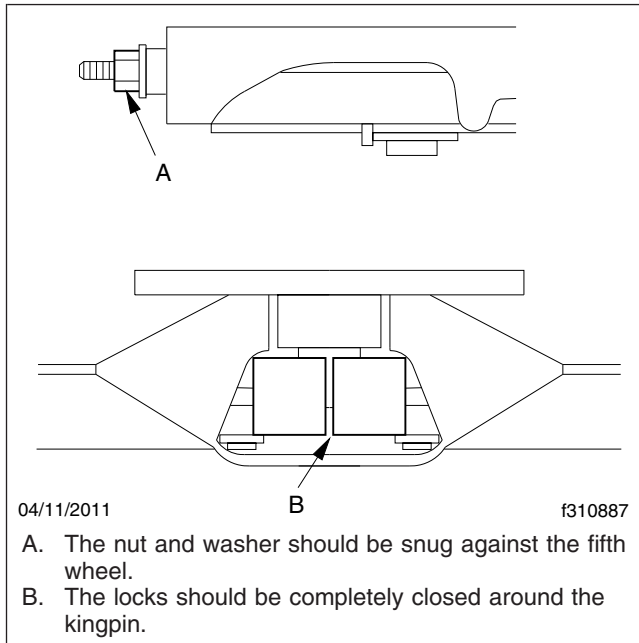

Fig. 4, Holland Fifth Wheel Properly Closed
5. Using a Holland Kingpin Lock Tester (Holland tool number TF-TLN-5001, available through the PDCs as HLD TFTLN5001), check the operation of the locking mechanism by opening and closing the locks. See **Fig. 4**.